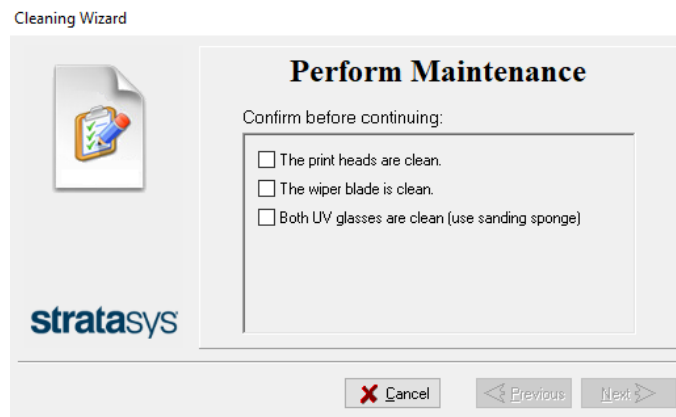

Figure 4-45 Wizard screen during cleaning tasks
13. Select the confirmation check boxes in the wizard screen (see Figure 4-45) and click **Next**.